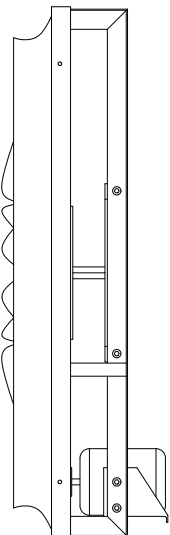

FIGURE 1
- 1) Remove motor bracket from its shipping position on fan frame. Attach motor bracket to motor (see Figure 1 below, or Figure 4 on reverse if using a slope wall housing, for correct positioning of bracket to motor).
- 7) Adjust belt tension (see paragraph (C) right) by loosening bolts slightly and tapping motor bracket up or down as necessary. Check motor pulley alignment with fan pulley and adjust pulley position on motor shaft as necessary.
- 2) For the proper mounting of the motor bracket to the fan frame, disregard Figure 1. Install the motor bracket as shown in Figure 4 of these instructions. Make sure the motor is mounted on top of the motor bracket.